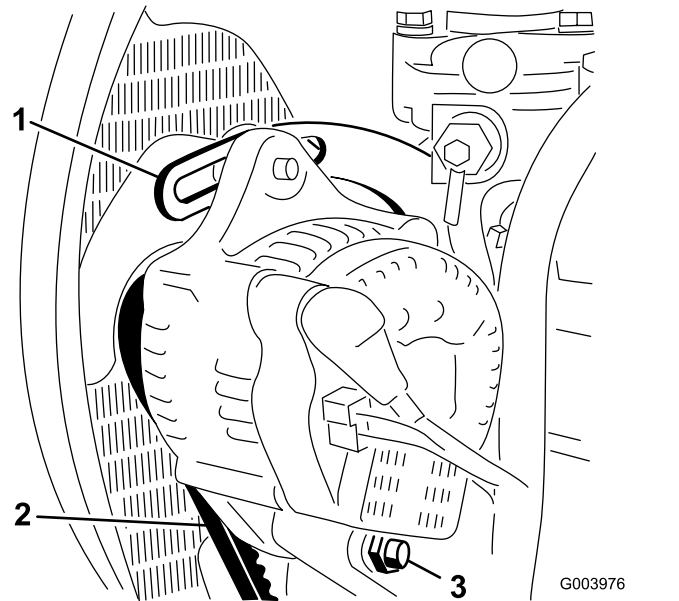

Figure 71
2. Check the tension of the alternator belt by depressing it (Figure 71) midway between the alternator and the crankshaft pulleys with 10 kg (22 lb) of force.
3. Loosen the bolt securing the brace to the engine (Figure 71), the bolt securing the alternator to the brace and the pivot bolt.